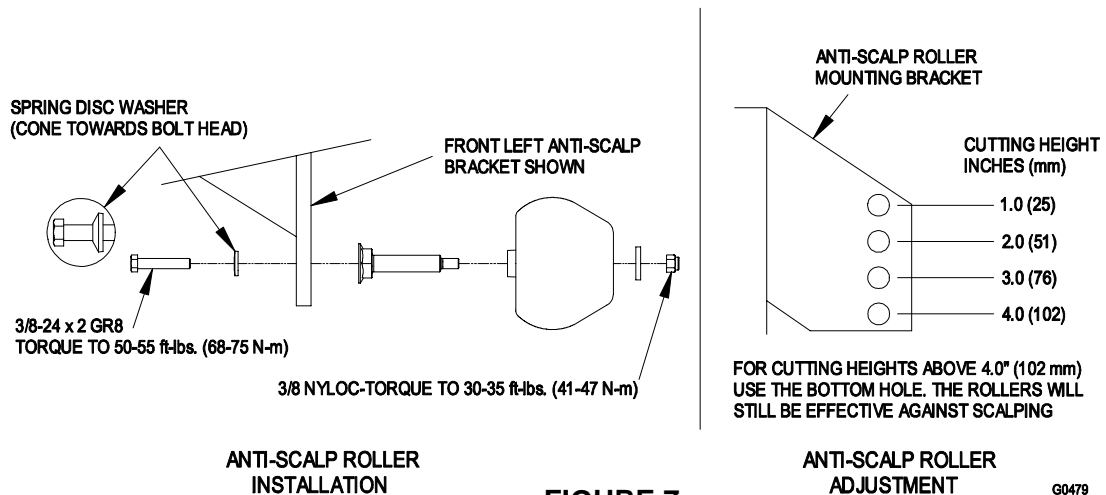

FIGURE 7
- f) Lower the deck to the 1" (2.54 cm) height position. Force the left rear deck support arm downward about 1/4" (6.4 mm) to get the deck to rest at the 1" height position. Place locking pliers between the rear swivel and spring stop to hold the deck in this position. See Figure 7.
- g) Place a 3/4" (19 mm) thick block of wood under each of the two (2) rear anti-scalp roller brackets and place one under **one of the front center** anti-scalp roller brackets.
- h) Loosen the two (2) top chain bolts in slots in the rear deck lift arms. Loosen jam nuts and back off the socket head adjusting screws on the bottom of the arms until the chains are just loose. Turn the socket head adjusting screws in until slack is taken out of each chain. Tighten the jam nuts. Tighten the chain bolts in the deck lift arms making sure they don't move while tightening.
- i) Loosen the four (4) nuts which secure the front swivels (two per side) until the front chains are loose and front of deck is supported by the 3/4" (19 mm) block. Do not loosen the front chain hardware.